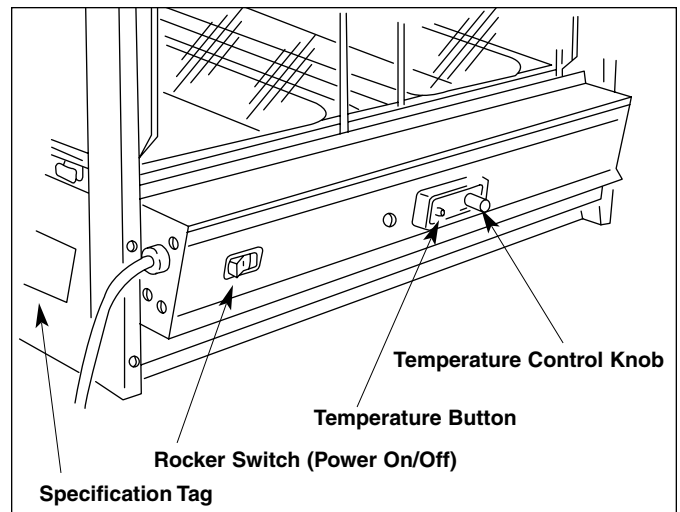

Figure 3. Controls
3. Set the rocker switch (Figure 3) to the ON position.
4. To set desired temperature, depress and hold the temperature button (Figure 3) while turning the temperature control knob to the desired setting (setpoint).